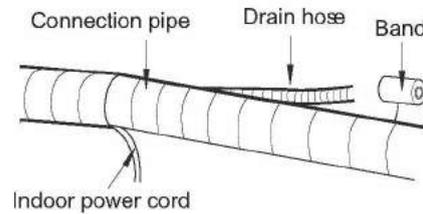

Fig.15
- (2) Reserve a certain length of drain hose and power cord for installation when binding them. When binding to a certain degree, separate the indoor power and then separate the drain hose. (As show in Fig. 15)
- (3) Bind them evenly.
- (4) The liquid pipe and gas pipe should be bound separately at the end.